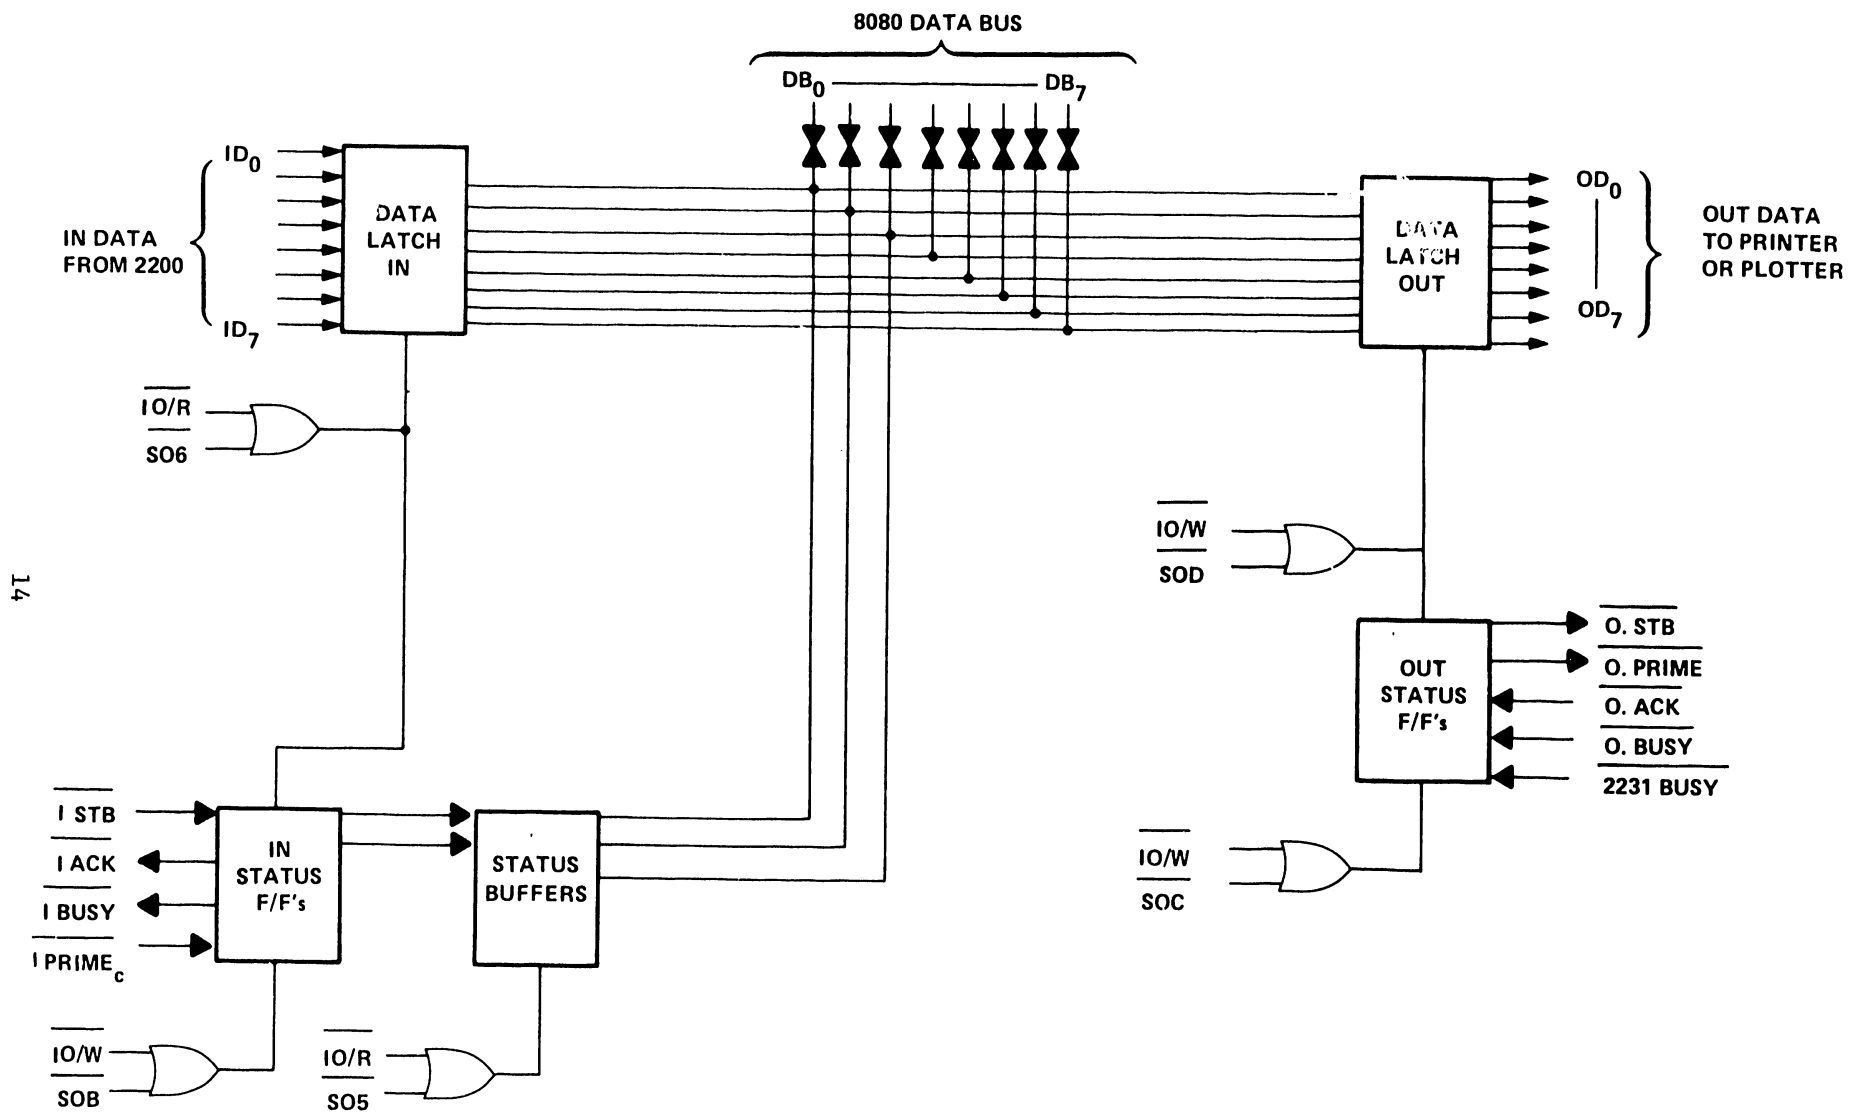

FIGURE 3
4.2.4 I/O INTERFACE (PCB #7297 - Figure 3)